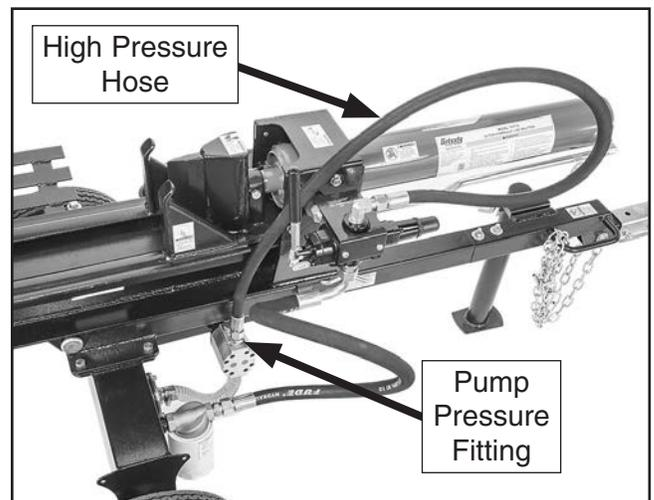

Figure 22. High pressure hose and control lever.
- Unthread plastic plug from high pressure hose (see **Figure 22**).
- Install high pressure hose onto pump pressure fitting (see **Figure 22**) with (1) 11.2 x 2.4 O-ring.